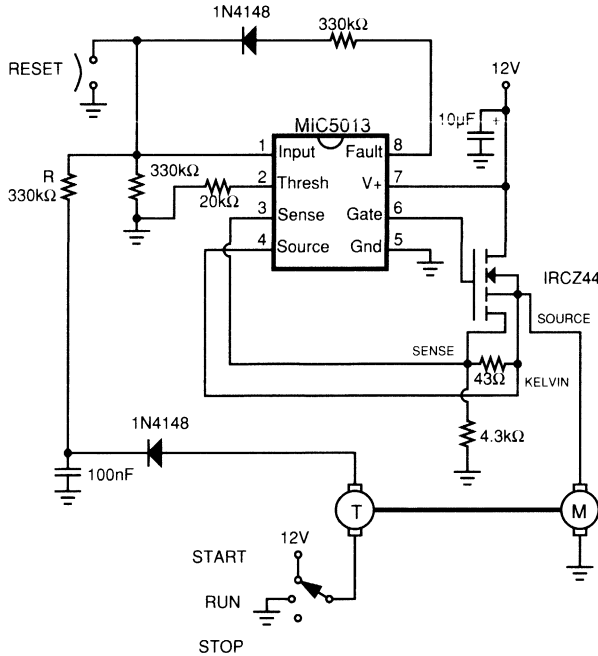

Figure 13. Motor Stall Shutdown
**Motor Driver with Stall Shutdown** (Figure 13). Tachometer feedback can be used to shut down a motor driver circuit when a stall condition occurs. The control switch is a 3-way type; the “START” position is momentary and forces the driver ON. When released, the switch returns to the “RUN” position, and the tachometer’s output is used to hold the MIC5013 input ON. If the motor slows down, the tach output is reduced, and the MIC5013 switches OFF. Resistor “R” sets the shutdown threshold. If the output current exceeds 30A, the MIC5013 shuts down and remains in that condition until the momentary “RESET” button is pushed. Control is then returned to the START/RUN/STOP switch.